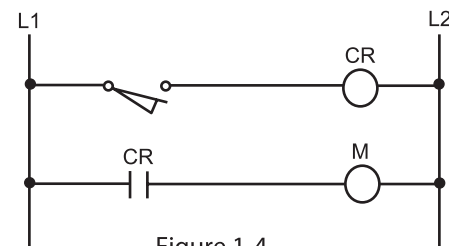

Figure 1-4
EXCESSIVE LOAD – If the load exceeds the ratings of the limit switch being used, a control relay (CR) or contactor with proper ratings can be used as in Figure 1-4.